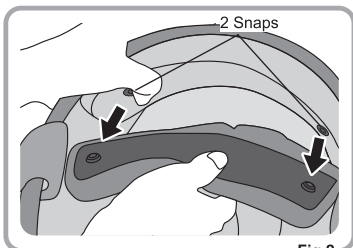

Fig.2
2. Undo the 2 snaps at the rear, then the inner pad will be removed. (Fig.2)